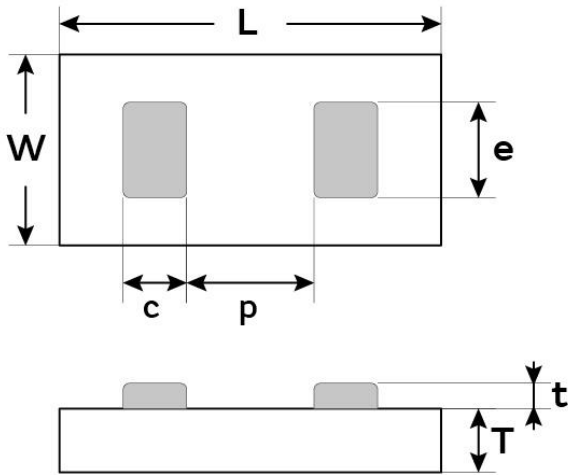

Figure 7 - Package outline drawing
(3) missing capacitors can reach 0.5%
(4) refer to Figure 7